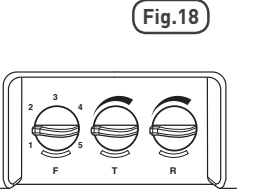

Fig.19
- Turn the Time control (length of time light switches on) marked "T" [Fig. 19] to **minimum** and the ambient light level control marked "F" to position "5" (**maximum**).
The TIME control "T" [Fig.19] should be turned up if the lights are required to switch on for longer.